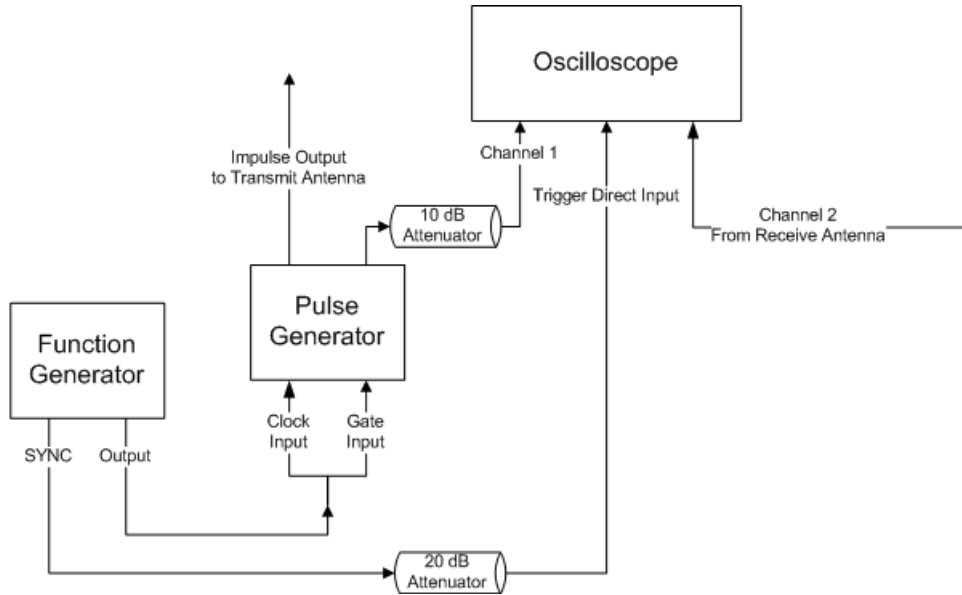

Figure 1: Exercise Equipment Setup
2. Before powering on any equipment, make all connections as shown in Fig 1.